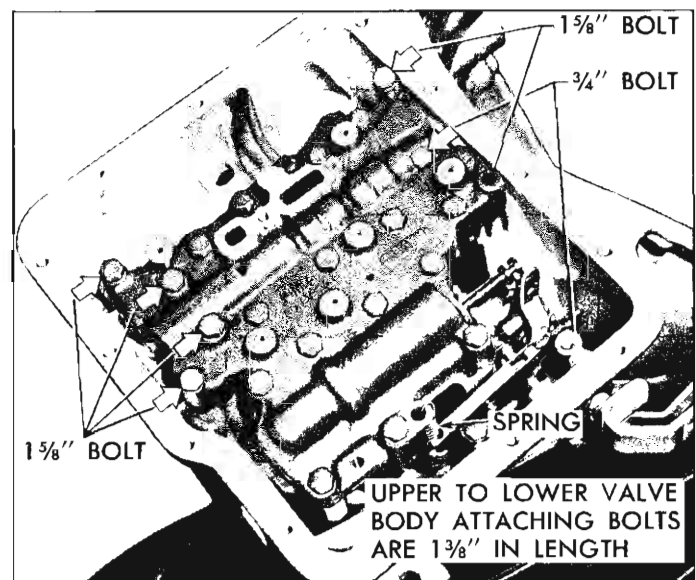

Fig. 16—Valve Body Removal
25. Remove the remaining valve body-to-transmission case attaching bolts (indicated by arrows in Figure 16) and carefully lift out the valve body